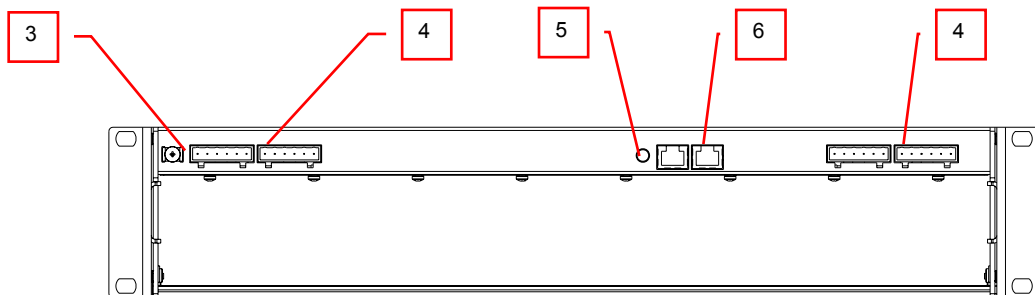

Figure 2. HDX002 Rear view, 3) Ground connector, 4) Power bus connectors, 5) Bus address switch, 6) Management bus with RJ-45 loop connectors
Ensure that the installation frame is properly connected to the earth in order to meet safety requirements. Proper grounding will also improve the protection from the effects of interference and increase the overall reliability of the system. Each installation frame has an earth-terminal on the rear panel (Fig. 2 pos. 3). It is used to provide the common ground for the complete headend. It is recommended to ground all installation frames to the same potential.